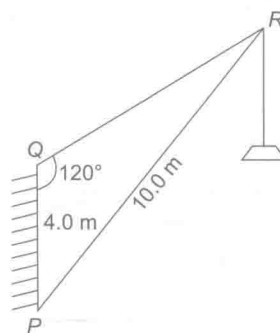

Figure 1.7
5. In Figure 1.7, PR represents the inclined jib of a crane and is 10.0 m long. PQ is 4.0 m long. Determine the inclination of the jib to the vertical (i.e. angle P) and the length of tie QR .